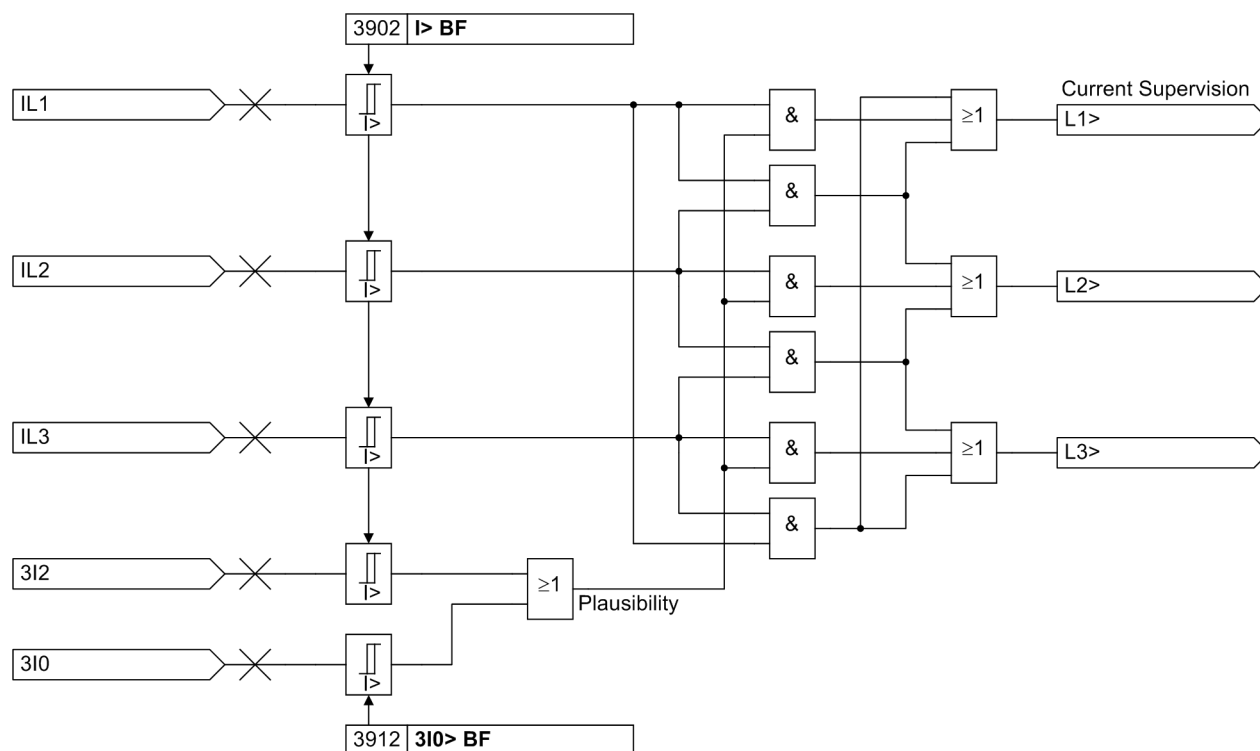
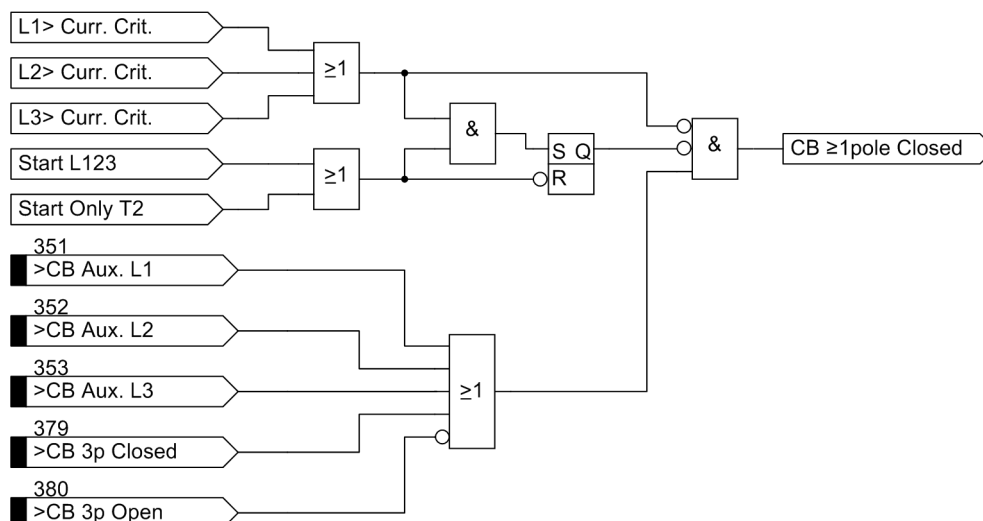
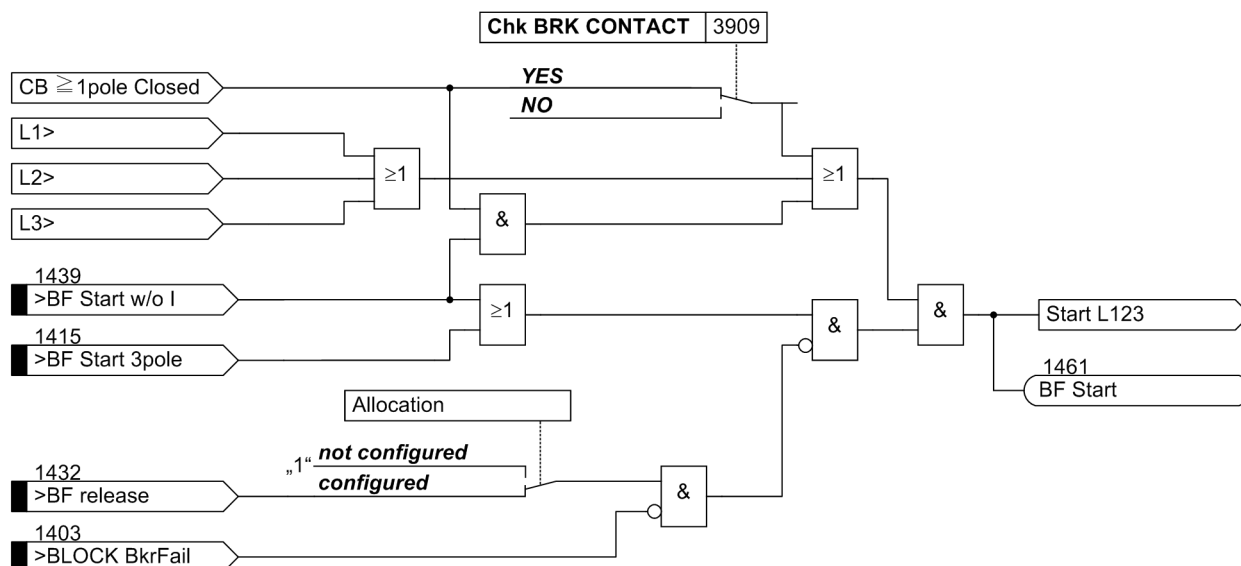
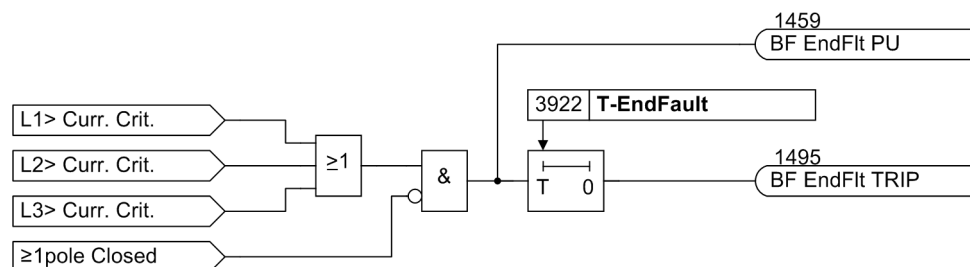

Figure 2-40 Current flow monitoring with plausibility currents $3 \cdot I_0$ and $3 \cdot I_2$
Figure 2-42 Creation of signal "CB ≥ any pole closed"
Figure 2-43 Breaker failure protection with common phase initiation
Figure 2-52 Functional scheme of the end fault protection
The currents are monitored and compared with the set threshold. Besides the three phase currents, two further current detectors are provided in order to allow a plausibility check (see Figure 2-40).
It is possible to disable the auxiliary contact criterion. If you set the parameter switch **Chk BRK CONTACT** (Figure 2-43 top) to **NO**, the breaker failure protection can only be started when current flow is detected. The position of the auxiliary contacts is then not evaluated even if the auxiliary contacts are connected to the device.
On the other hand, current flow is not a reliable criterion for proper operation of the circuit breaker for faults which do not cause detectable current flow (e.g. Buchholz protection). Information regarding the position of the circuit breaker auxiliary contacts is required in these cases to check the correct response of the circuit breaker. For this purpose, the binary input „>BF Start w/o I“ No. 1439 is provided (Figure 2-43 left). This input initiates the breaker failure protection even if no current flow is detected.
Figure 2-43 shows the operating principle. When the trip signal appears from a protective function and at least one current flow criterion (according to Figure 2-40) is present, the breaker failure protection is initiated and the corresponding delay time(s) is (are) started.
If the current criterion is not fulfilled for any of the phases, the position of the circuit breaker auxiliary contact can be queried as shown in Figure 2-42. If the circuit breaker poles have individual auxiliary contacts, the series connection of the three normally closed (NC) auxiliary contacts is used. After a 3-pole trip command the circuit breaker has only operated correctly if no current is flowing via any phase or alternatively all three auxiliary contacts indicate the CB is open.
Figure 2-42 illustrates how the internal signal "CB pole „L1 closed“ is created (see Figure 2-43 left) if at least one circuit breaker pole is closed.
The end fault protection detects an end fault because it registers that current is flowing even though the circuit-breaker auxiliary contacts signal that the circuit-breaker is open. Figure 2-52 shows the functional principle. If current flow is detected (current criterion „L*“ according to figure 2-40) but no circuit-breaker pole is closed (auxiliary contact criterion „ ≥ 1 pole closed“ is not active), the timer **T-EndFault** is started, and after time-out a trip command is sent to the opposite end.
Additionally, the current criteria (from Figure 2-40) are processed. Pole discrepancy can only be detected when current is not flowing through all three poles (<3), i.e. through only one or two poles. When current is flowing through all three poles, all three poles must be closed even if the breaker auxiliary contacts indicate a different status.